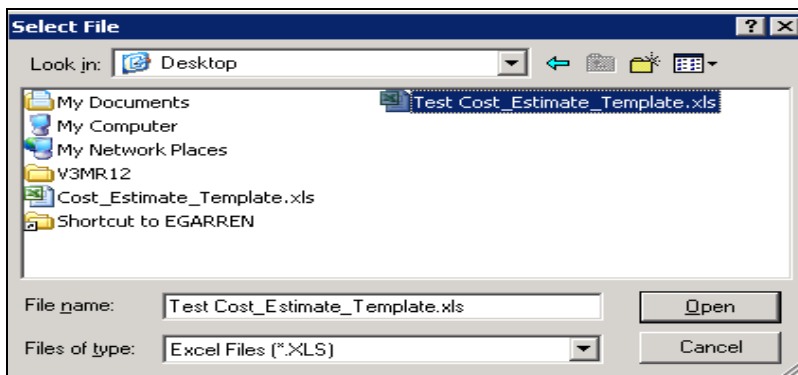

Figure 6-49: Select File Window
2. Select the IMPORT button. The Select File window will appear (Figure 6-49). Navigate to the folder where the spreadsheet is located, highlight the completed cost estimate spreadsheet file, and click Open.